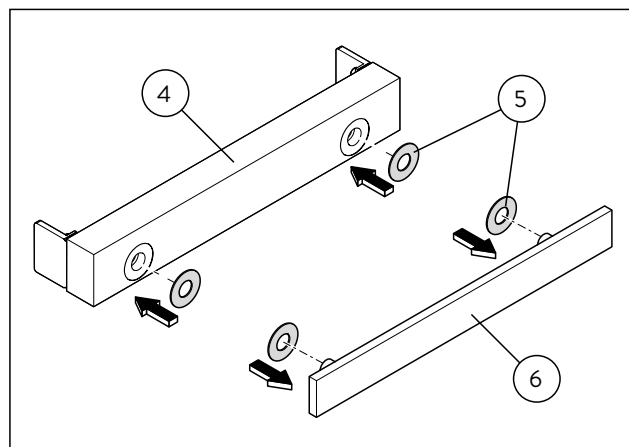

Abb. 10 Install the gaskets as glass protection
1. Install the gaskets as glass protection on the screw-on plate and on the counter-plate (Abb. 10).